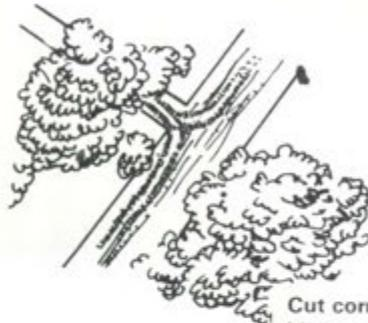

Figure 3.
b. Avoid dusty terrain when possible, since it betrays the movement of armored vehicles (figure 3).